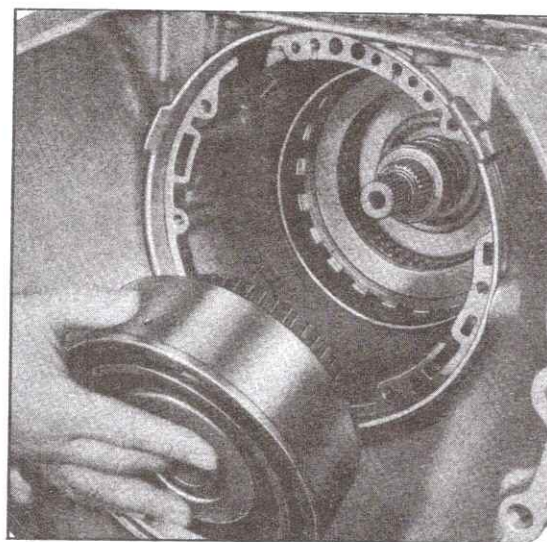

Fig. 7-43 Removing Direct Clutch and Intermediate Sprag Assembly
3. Remove direct clutch and intermediate sprag assembly, Fig. 7-43. Sun gear shaft may come out with direct clutch assembly.